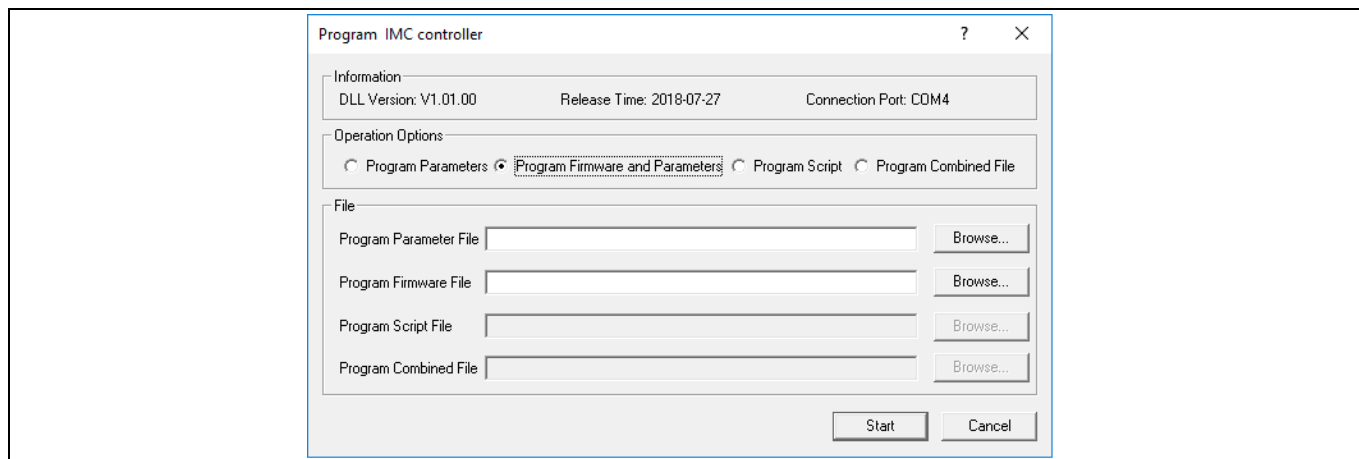

Figure 24 MCEDesigner programmer page
9. Use the following steps to program the firmware and the parameters file into the internal Flash memory of iMOTION™ Control IC: click on system page, click “Tools” > “Programmer” and select “Program Firmware and Parameters” (Figure 24). The encrypted firmware is available in “IMM101T MCE Software Package” downloaded in step 1 as .ldf file. Regarding the parameters file, browse and select the .txt file created in step 4